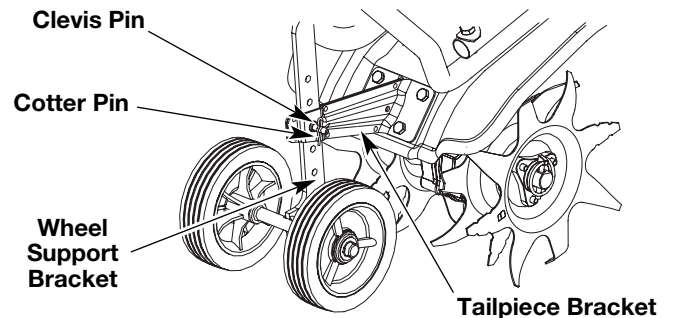

Fig. 3
2. Remove cotter pin from the clevis pin and slide clevis pin out of tailpiece bracket (Fig. 3).